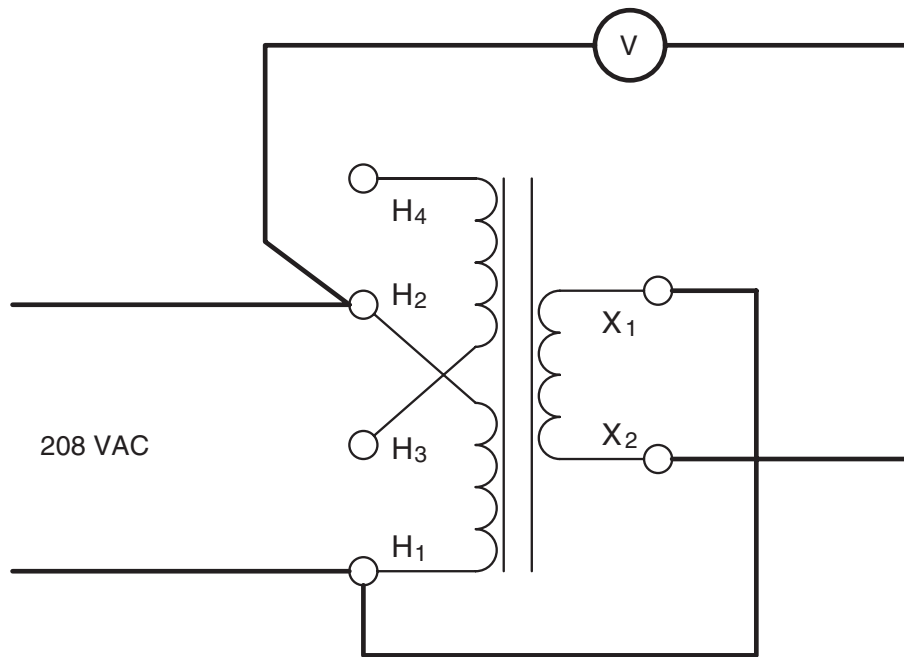

Figure 21-12 Connecting X_2 and H_2 .
5. Connect the circuit shown in Figure 21-12 by connecting X_1 to H_1 . Connect a voltmeter across terminals X_2 and H_2 .